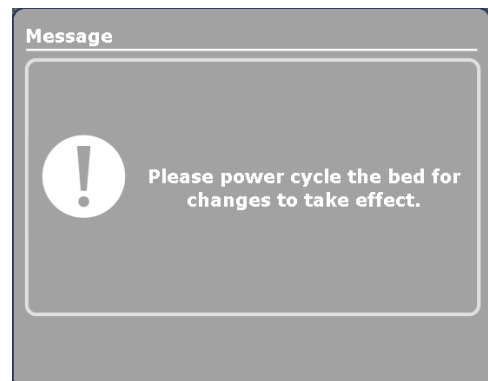

Figure 34: Cycle Power Screen
5. After pressing the **Close** button a Cycle Power screen (Figure 34) will be displayed stating to cycle power on the bed.
6. To cycle power on the bed, turn the battery disconnect switch to **OFF** (O) then unplug the power cord from the wall outlet. Plug the power cord back into the wall outlet then turn the battery disconnect switch back **ON** (I).
4. After pressing the **OK** button a Cycle Power screen (Figure 34) will be displayed stating to cycle power on the bed.
5. To cycle power on the bed, turn the battery disconnect switch to **OFF** (O) then unplug the power cord from the wall outlet. Plug the power cord back into the wall outlet then turn the battery disconnect switch back **ON** (I).